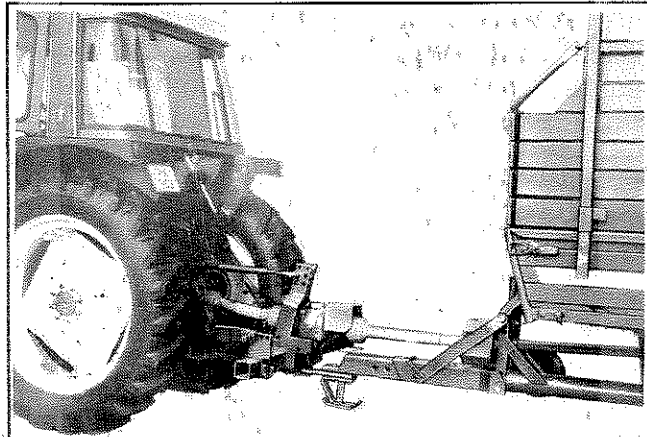

Fig. 13
**Fig. 13** For connection by hitch the lift suspension is lowered so that the hitch hook can just get under the hitch eye of the tractor. The tractor is reversed towards the trailer and the Lift suspension hoop is raised. When the hook is engaged into the eye the trailer is connected.